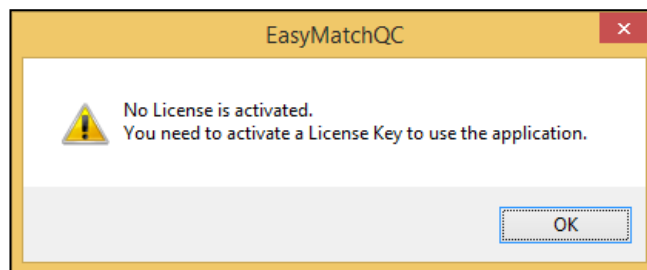

Figure 5. No License Warning
- a. From the **CHOOSE AN OPTION** page (Figure 5), select **KEY ID**.
- b. From the **CHOOSE AN OPTION** page (Figure 5), select **KEY FILE (.skl)**.